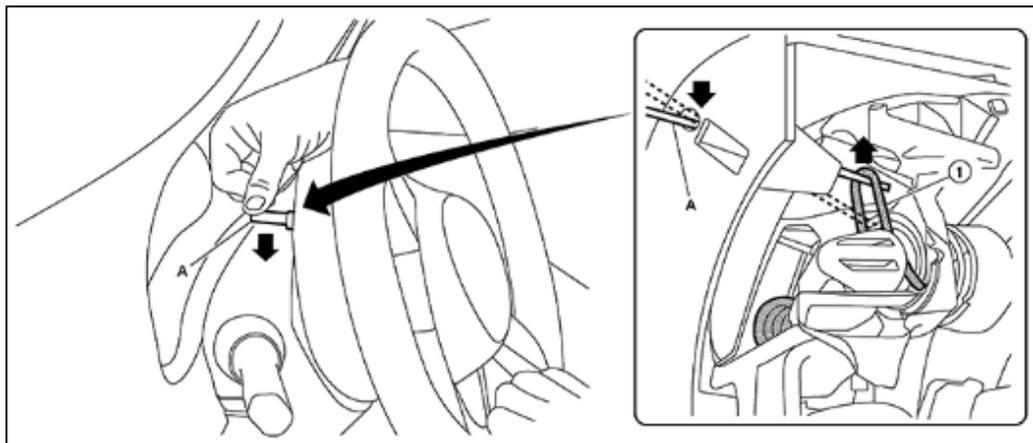

Figure 5
- Lift the spring (1) using the Air Bag Release Tool (A), to disengage the spring, as shown in Figure 5.